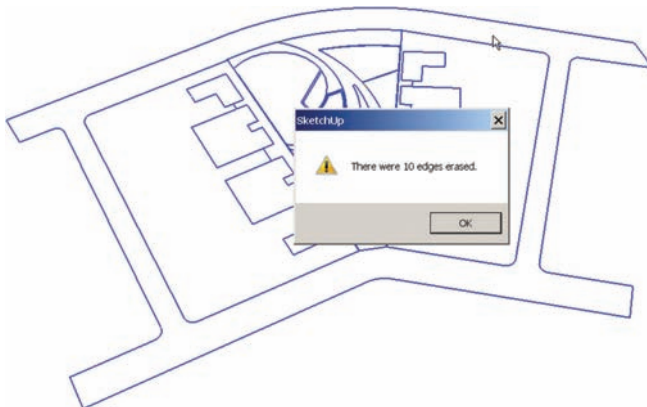

Fig. 18-24: From the Plugins menu, select Delete Short Lines. One of two things will happen.
- ▶ A pop-up menu will appear and indicate how many lines were deleted (Fig. 18-24). If this happens, you won't need to do anything else.